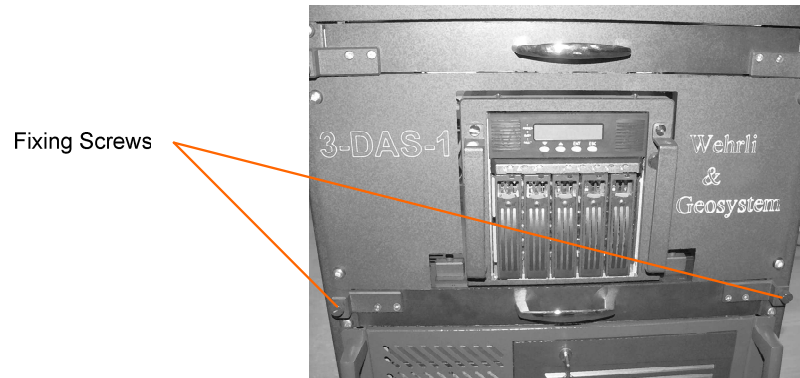

Figure 1.23: Fixing screws of the in-out table.
- Release RAID-array in-out table, having unscrewed 2 fixing screws on front of the rack, and move it out up to the stop. (Figure 1.23)